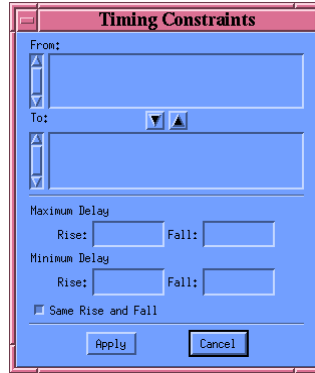

Fig. 8: Timing constraints
1. Select the top-level module in Symbol View. Select Attributes \Rightarrow Optimization Constraints \Rightarrow Timing Constraints (see Fig. 8)